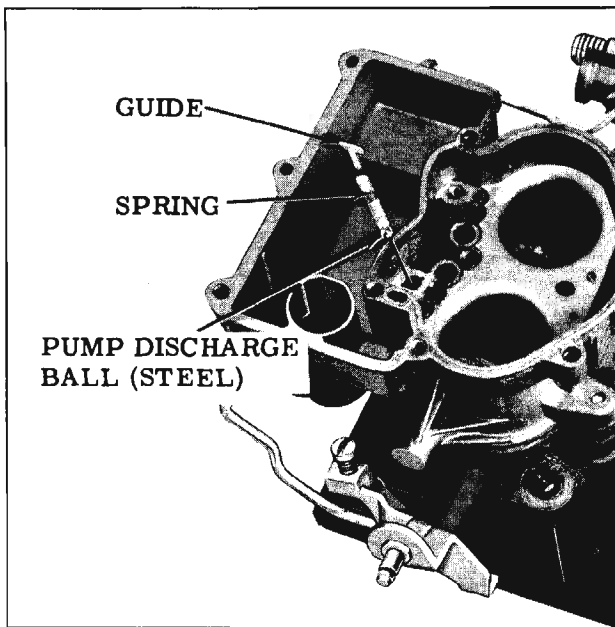

Fig. 9-40 Pump Discharge Guide
5. Using a pair of needle nosed pliers, remove the pump discharge spring guide, then remove the spring and steel ball. (Fig. 9-40)
1. Install the pump discharge (steel) ball, spring and guide in the passage in the venturi cluster mounting surface. (Fig. 9-40)